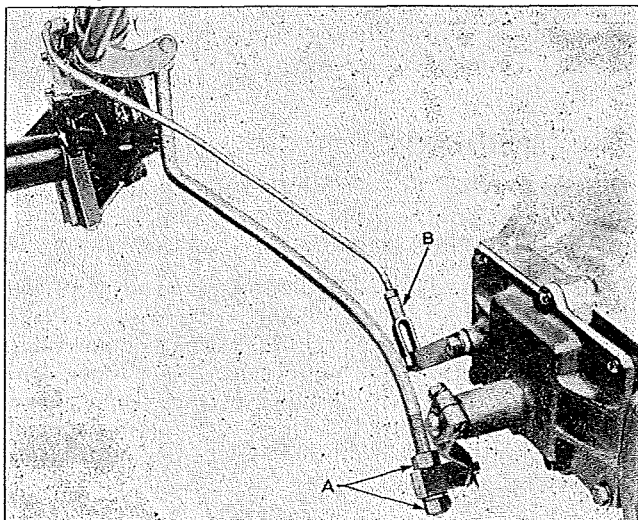

Fig. 25—Graham 1940
1940: (See Fig. 25.) (1)—To adjust the control